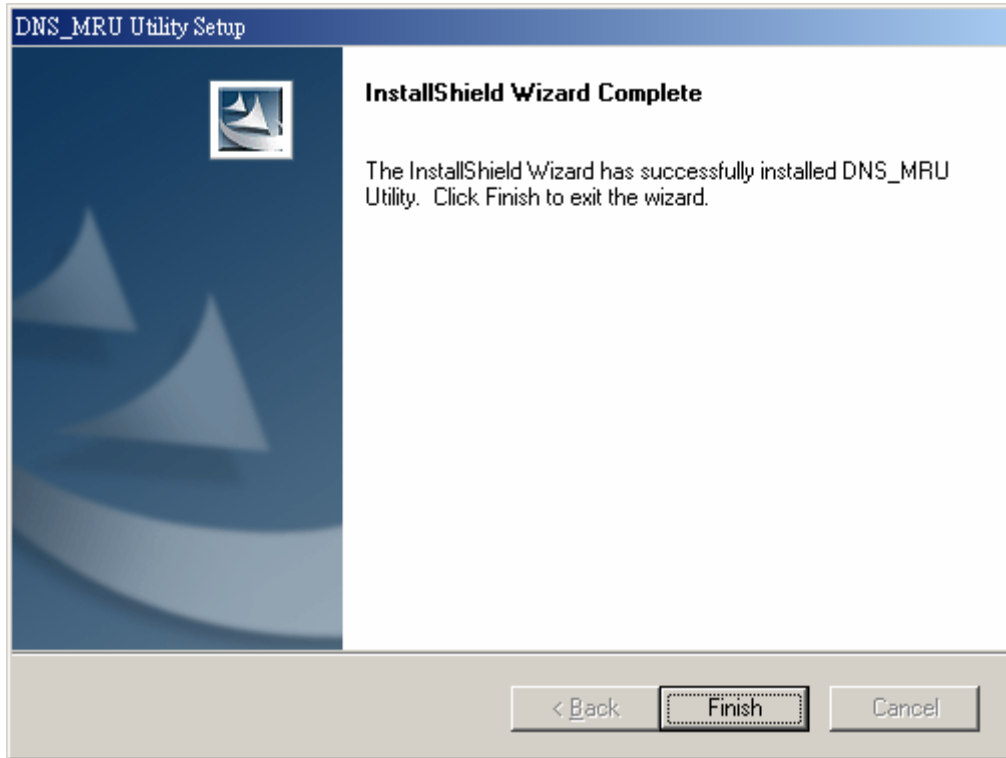

Figure 6-5. “Successful Completion of the Installation” dialog
**Step 6:** Click “Install” button and start to install the DNS\_MRU Utility to the system. After finishing the process, a “Complete” window will pop up to prompt users that the successful completion of the installation. And click “Finish” button to exit. See figure 6-5.